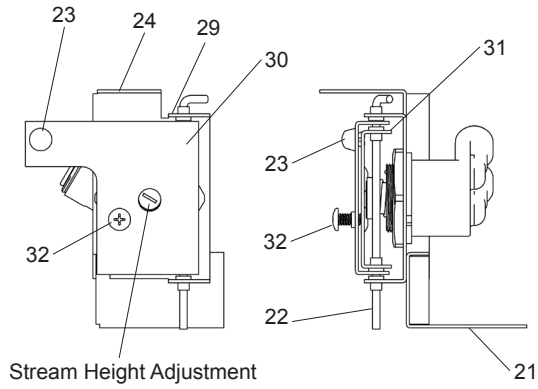
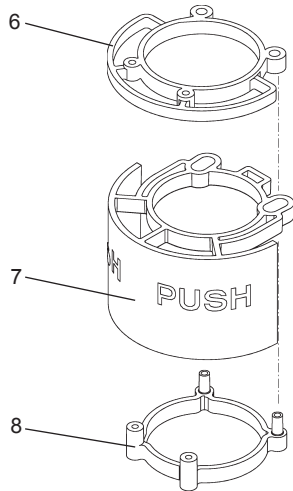

Figure 7
Figure 8 - Push Bar Mechanism
14. **Check stream height from bubbler.** Stream height is factory set for 35-40 PSI supply. If supply pressure varies greatly from this, remove items 6, 7, and 8) (push arm and the bottom and the top actuator plates - (Figure 8) by removing the screws holding assembly together and adjust the screw on the regulator (Item 19 - Figures 7 & 9). Clockwise adjustment will raise stream height and counterclockwise movement will lower stream height. For best adjustment, stream height should be approximately 6-1/2" (38mm) above the bubbler guard. Reassemble the pushbar (Fig 8).